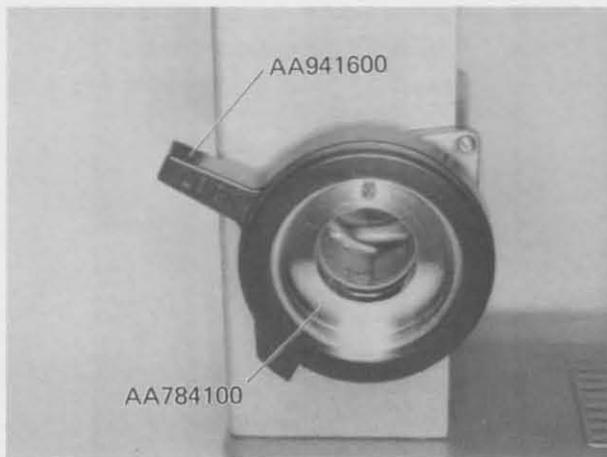

Fig. 3-33
- b) Remove Lever AA941600 by turning it counterclockwise. (See Fig. 3-33)